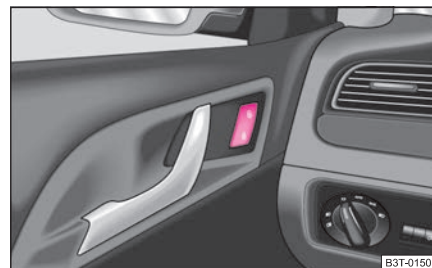

Fig. 26 Central locking switch
- Press on the bottom part of the button ⇒ fig. 26. The symbol in the button comes on.
- Press on the top part of the button ⇒ fig. 26. The symbol goes out in the button.